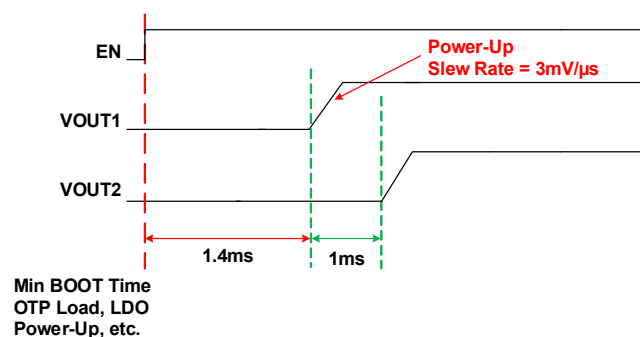

Figure 21. Master Chip Enable Power-Up Example
Note: The delay, BUCK_x_EN_DLY[5:0] shown in Figure 21 as EN_dlyx, is programmable from 0 to 63ms in 1ms steps.
Figure 21 provides an example of power-up configurability. The master chip enable pin (EN) transitions from 0 to 1 and OTP is loaded over 1.4ms. After the initial 1.4ms boot interval, the buck output start-up sequence begins. In the Figure 21 example, BUCK1_EN_DLY is set for 0ms and BUCK2_EN_DLY is set for 1ms.